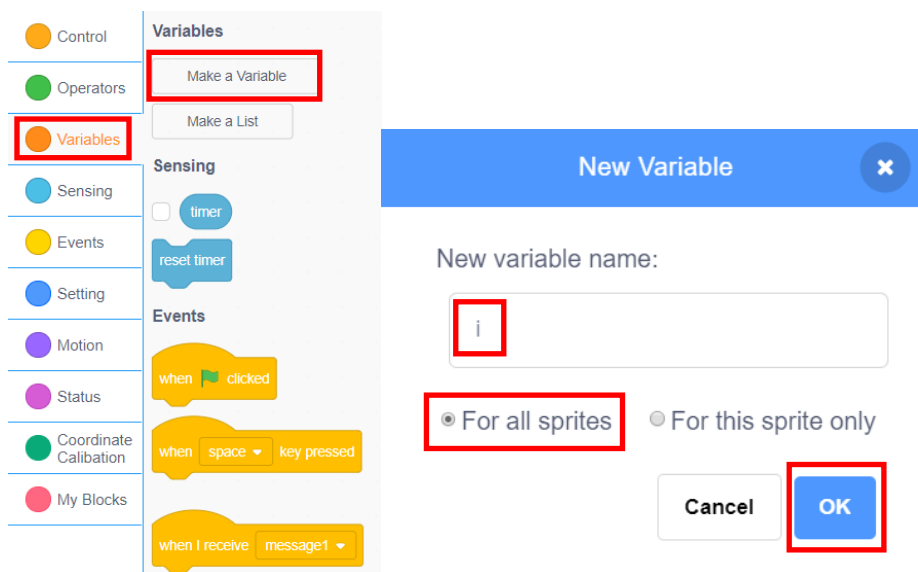

Figure 2.5 Creating a variable
Step 5: Create a variable. In Scratch, click the "**Variables**" tab, click "Make a Variable", name the new variable "i" in the pop-up interface, select applying for all sprites, and click OK. During the repeated execution, the Z-axis coordinate value increases as the variable increases. Figure 2.5 shows how the variable is created.